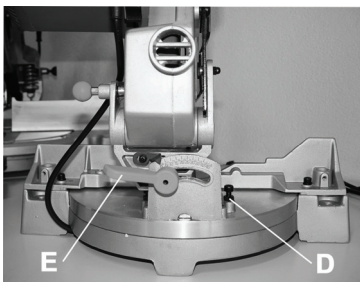

Fig. 4
If you want to make chafer cuts up to 45°, release the lock lever (E) on the rear side of the machine (Fig. 4)